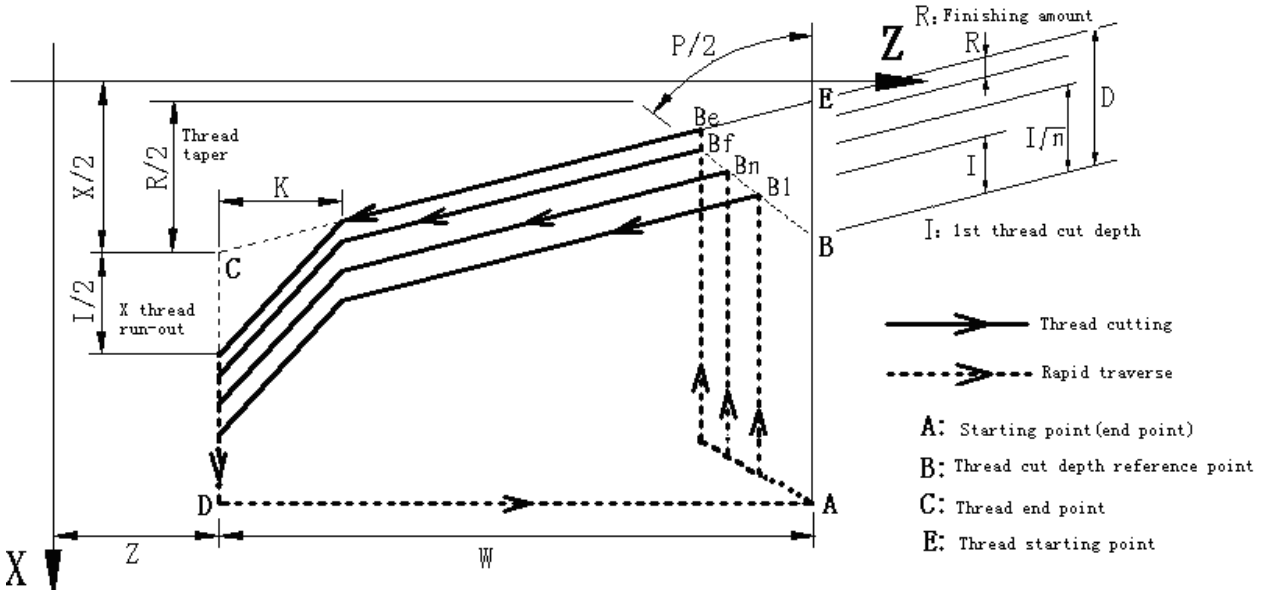

Fig. 4-47
Field definitions, data range are the same those of G92 as Fig. 4-47:
- 1) When the system executes the command, it loads P, L, R, Q values to their corresponding parameter, because the several parameters must be used when the system executes the command ②.
- 2) When the system executes the command, D, I are memorized to the system internal and are used in G76②.
- 3) The system must firstly execute one G76① command, and then can execute one or more G76
- ② commands, otherwise, it alarms because of lacking some necessary information.
- 4) P, L, R, Q can be omitted all. When they are omitted, the system runs according to P336, P337, P338, P339 setting values in executing G76②; but D, I cannot be omitted.
**Relative definitions:** (as Fig. 4-47)
1. Using G76 thread cycle cutting command group can complete the specified tooth height(total cut depth) of the thread cutting by multi thread roughing and finishing; when the thread angle defined by the command ① is not 0°, the cut-in point of thread roughing moves to the thread tooth bottom from the thread tool top and the angle between neighboring two teeth is the defined thread angle.
4. When the thread angle defined by G76 ① is not 0, X, Z move simultaneously, the thread axis reaches the cut-in point, and then the single-axis for non-thread axis moves to the cut-in point in G76 ② thread cycle from the starting point to the cut-in point; other cut path is the same that of G92 as Fig. 4-47.